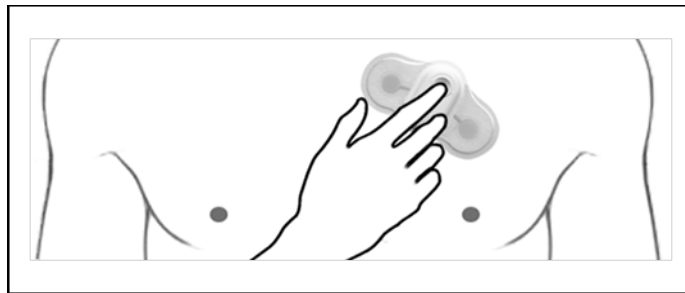

Figure 3.4. Activating the patient trigger.
3. The patient should press the button if experiencing one of the symptoms for which the Sensor is prescribed (see below Figure 3.4). This action is referred to as a patient trigger.